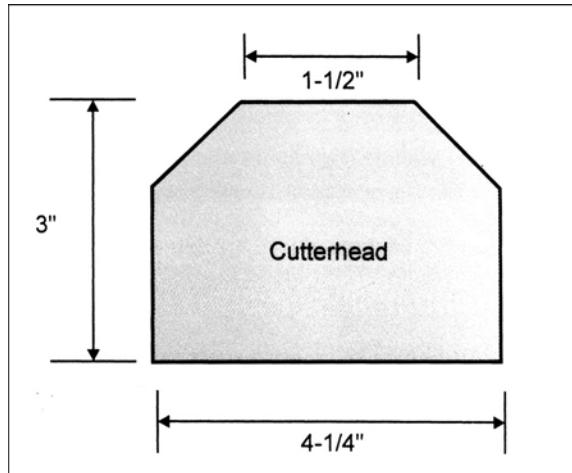

Figure 10
3. Mark each block as shown in Figures 10 and 11.